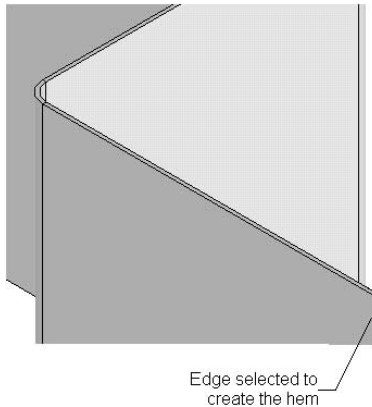
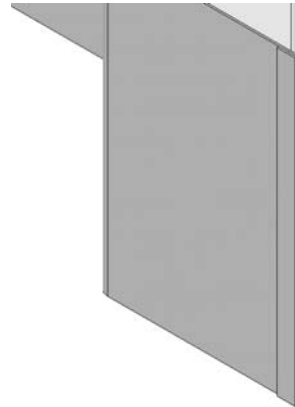

Figure 16-144 Edge selected to create the hem
Figure 16-145 Resulting hem
3. Select the edge to create the hem, as shown in Figure 16-144; the hem is created, as shown in Figure 16-145.